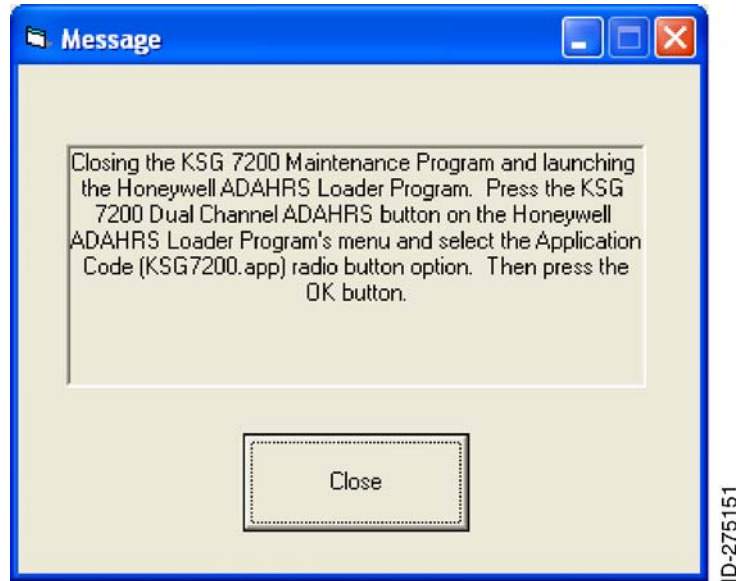

Figure 9. (Sheet 1 of 1) Message Window
- (8) Click on the KSG 7200 Application Software Upgrade button and the KSG 7200 Maintenance Program will open a message window. Refer to Figure 9.